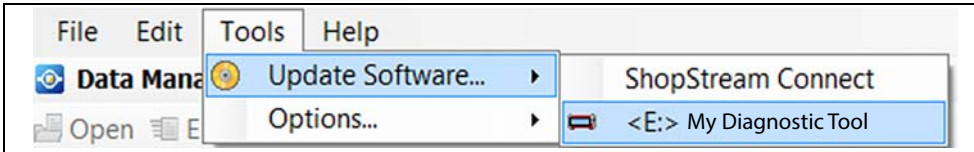

Figure 18-12
1. Select **Tools > Update Software >** (diagnostic tool type - e.g. **ETHOS Edge, MODIS Edge, SOLUS Edge, etc.**) from the Menu bar (*Figure 18-12*).